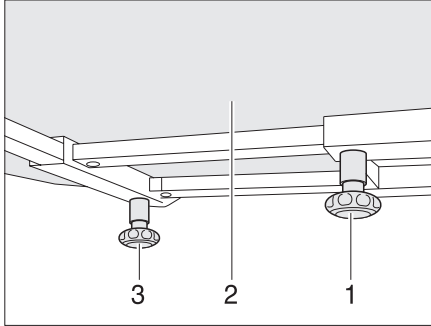

Fig. 66 Fixed table
- ▶ Loosen the knurled screw (Fig. 66,1).
- ▶ Move the table-top (Fig. 66,2) to the desired position.
- ▶ Loosen the knurled screw (Fig. 66,3).